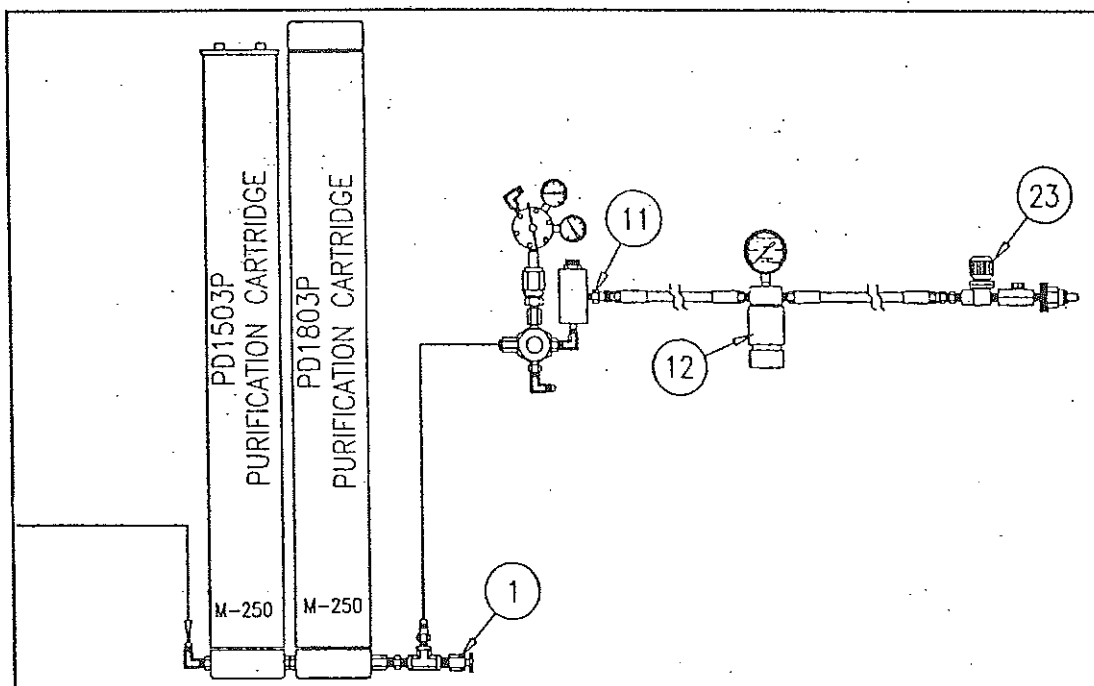

FIGURE 14-3 AIR SAMPLING DEVICE DEPLOYMENT
1. Install the flexible hose on the sampling device to the PMV at point (11) Figure 14-3 and open the valve (23).
2. Turn on compressor and run machine for approximately 5 minutes while discharging air from the sampling device. Regulator (12) (Figure 14-3) should be set to deliver air at a pressure between 2000 and 3000 PSIG.
3. Reconnect system lines at point (11) (Figure 14.3).